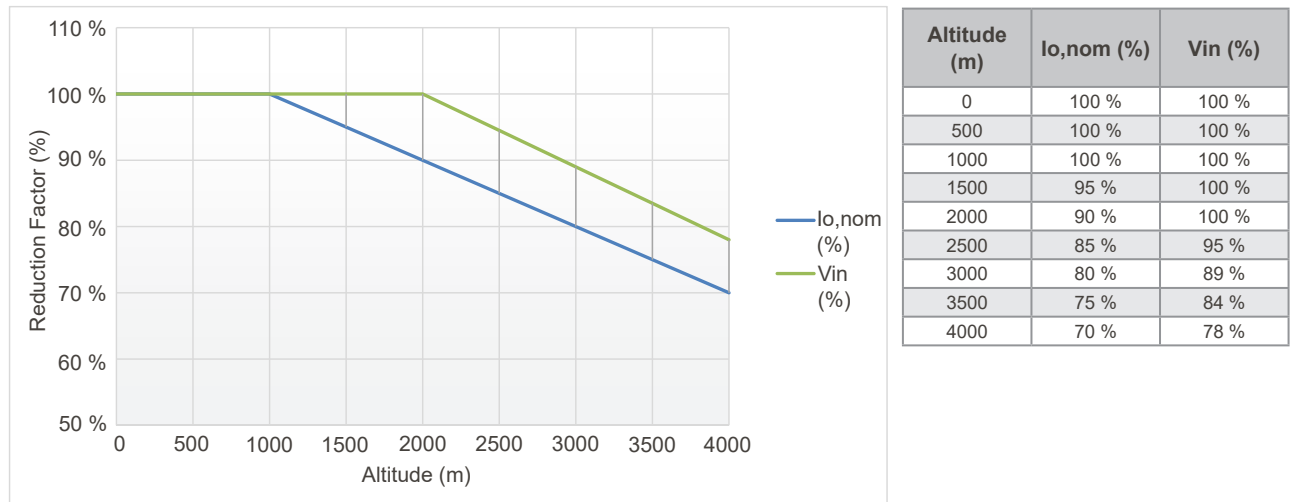

Figure 8.3: Current derating as a function of the installation altitude
Figure 8.3 on page 119 graphically illustrates the output current and supply voltage derating specifications according to the altitude.
- **FD_{al}**: For installation altitude of 1500 m, the reduction factor is $FD_{al} = 95 \%$ (see Figure 8.3 on page 119).